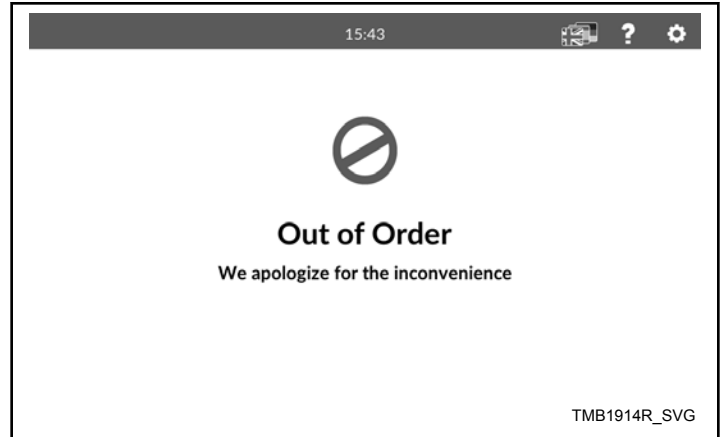

Figure 8
1. Select a cycle from the cycle options menu Cycle Preset. (refer to *Figure 8*)